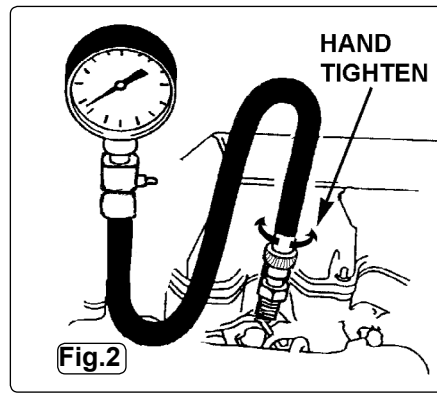

Fig.2
- 3.9 Select the spark plug adaptor required for the vehicle. Screw the adaptor to the hose. Screw the spark plug adaptor and hose assembly into a spark plug well. Hand tighten only. **DO NOT** use a wrench. Refer to Fig.2.